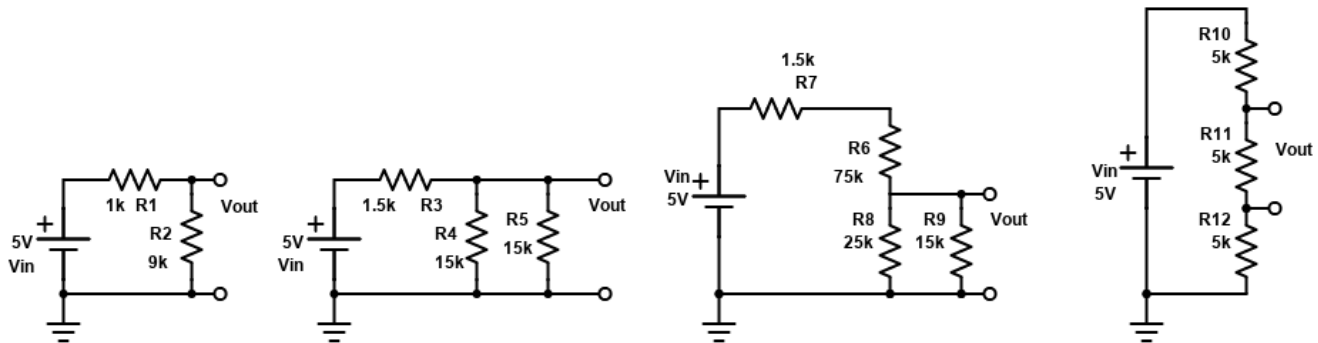
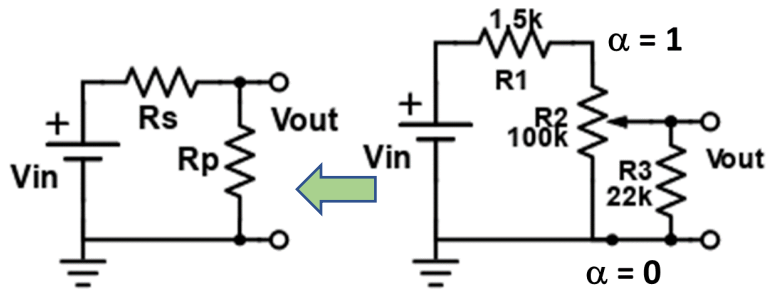

Figure 2. Four circuits for your consideration. Compute V_{out} in each case.
Figure 5. The audio circuit (right) can be analyzed as a voltage divider using series and parallel equivalent resistance. How very nice.
3. Transform the audio circuit into a voltage divider as indicated in Figure 5. What resistors are in series? In parallel? Write expressions for R_s and R_p in terms of R_1 , R_2 , R_3 , and α . (Hint: Again, it may be helpful to diagram the pot as 2 series resistors per Figure 2.)